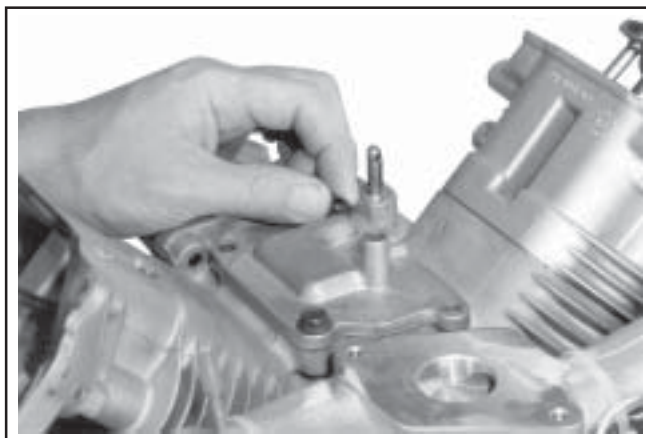

Figure 11-54. Installing Screws (Locations 3 and 4).
3. Position the breather gasket and cover on the crankcase. Install the first two hex flange screws in locations 3 and 4 shown in Figure 11-54. Finger tighten at this time.